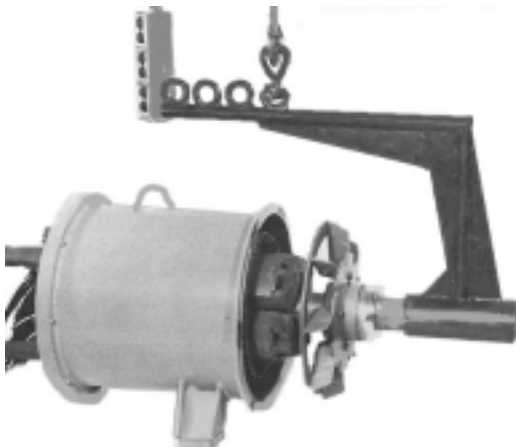

Figure 6-29
6. Using a rotor lifting fixture and a suitable hoist, carefully remove the rotor assembly from the main stator and frame assembly through the drive end. (Figure 6-29.)